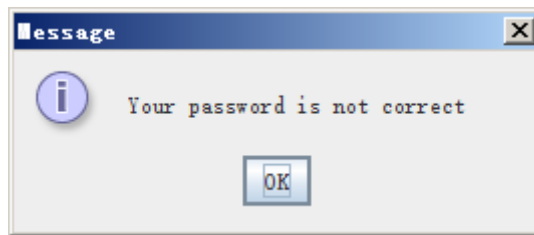

Figure 3.1-4 Prompt for Input Error Password
- **Input password:** input the password matched with your selected user, then press **Login** button. If the password matches the user, you will login in successfully, otherwise, if they are mismatched, it will pop up a prompt, as shown in Figure 3.1-4, press **OK** button, and re-input your password.